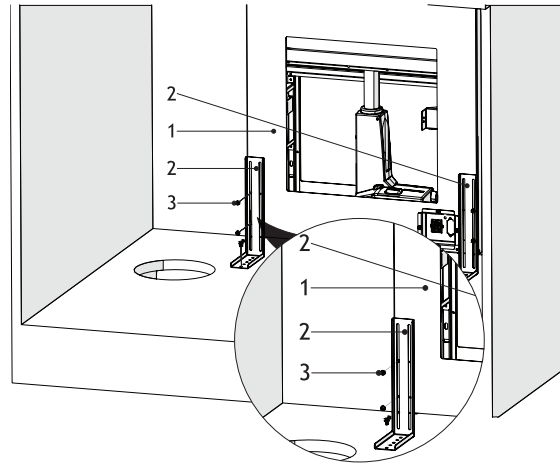

Fig. 17
- ➔ ■ Install the housing from the lower side using 2 long brackets supplied in installation accessories (Fig. 17)